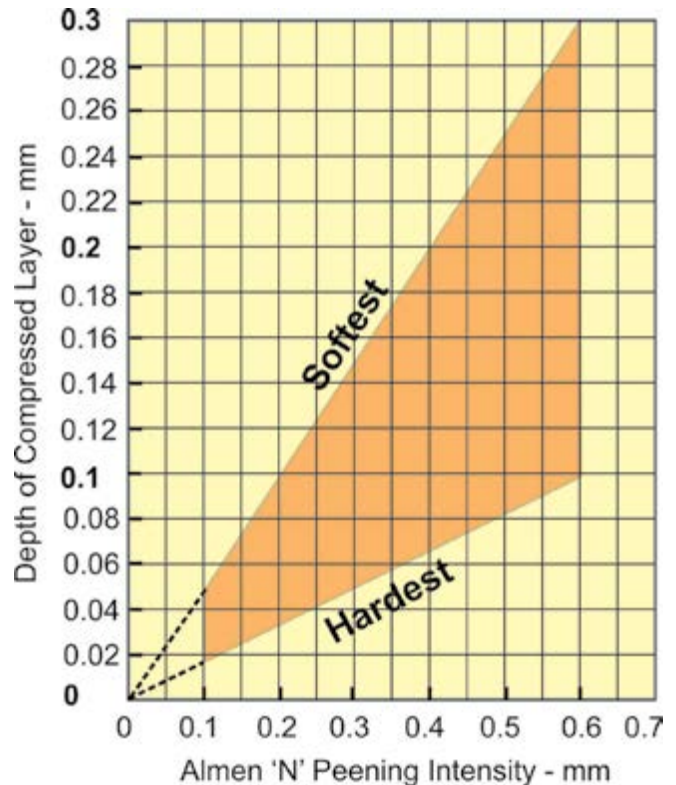

Fig.4. Guideline Diagram for Conversion of Almen ‘N’ intensity to Depth of Compressed Layer.
It has already been shown that: (a) for very soft materials, such as aluminum, D can be as much as 50% more than the Almen ‘A’ peening intensity and (b) for very hard materials, such as high-strength steels, D can be as little as half of the Almen ‘A’ peening intensity. Extending this to ‘N’ and ‘C’ strips allows the construction of the graphs shown as figs.4 to 6.
An approximate compressed layer depth can be read off from the appropriate figure using a measured value of Almen peening intensity. For example: in fig.4 a measured Almen peening intensity of 0.5 mm ‘N’ indicates that the compressed layer depth will be between 0.08 mm and 0.25 mm – depending on component hardness. If the component is known to be of average hardness the depth would be indicated as being 0.15 mm.
- (1) A specified range of 0.35-0.50 mm Almen 'N' intensity for parts with a minimum tensile strength of 220 ksi (1517 MPa) means that first we must divide the minimum 0.35 mm by 3.5 (giving 0.10 mm) and then divide that by 20 (to give the 5% allowance). This yields 0.005 mm as the maximum that can be removed by fine finishing. Using fig.4 indicates that for an Almen intensity of 0.35 mm 'N' the compressed layer depth would be about 0.058 mm. Removing 0.005 mm from a depth of 0.058 mm is about 9%.
- (3) A specified range of 0.35-0.50 mm Almen 'N' intensity means that again we divide the minimum 0.35 mm by 3.5 to give 0.10 mm. This can now be divided by 10 (to give the 10% removal allowance. Hence we are allowed to remove 0.01 mm. Using fig.4 at 0.35 MM Almen 'N' the compressed depth is about 0.10 mm – for components of average tensile strength. That again corresponds to 10%.